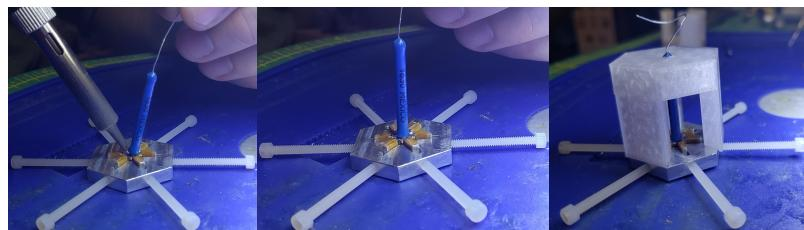

Figure 13: Installing input resistor on capacitor array.
4. Solder one resistor to the capacitor array, gently push the resistor down so it is flush with the standoff in the center of the array. If the standoff was shorter than the width of the resistors, so that only one end is flush with the resistors, put the flush end up towards the input resistor. Use the resistor jig to ensure it can be centered. It is possible to solder the resistor to the capacitors array while installed in the jig, just more difficult and if the resistor is installed carefully it should be well enough centered without the jig. Bend the other lead into a spring to keep the resistor held in place when the jig is inverted. See figure 13.